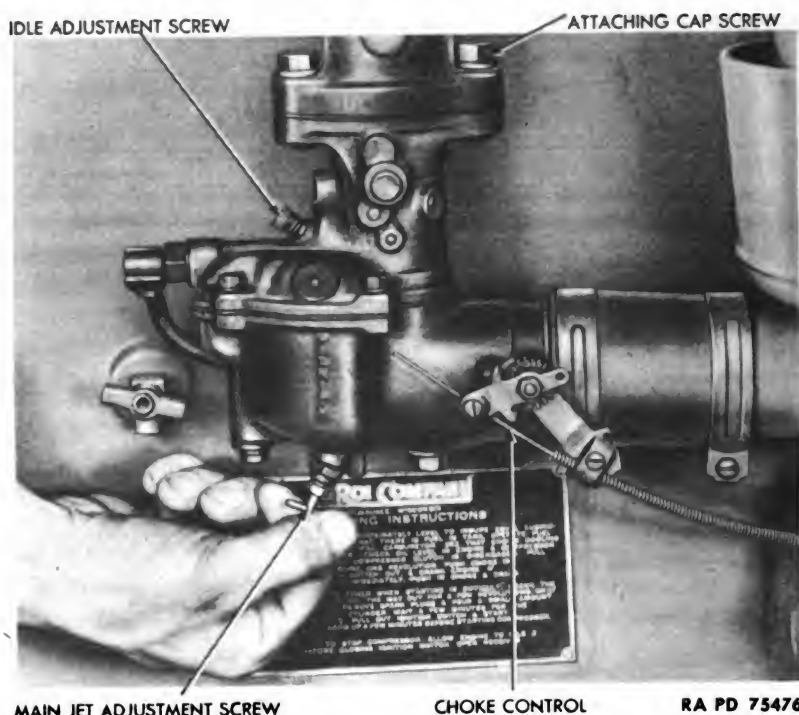

Figure 17 — Adjusting Compressor Unit Engine Carburetor
1. *Main Jet Adjustment* (fig. 17). With engine running, open throttle to about one-fourth open. Turn main jet adjustment (thumb-screw on bottom of carburetor) clockwise until engine speed decreases due to too lean a mixture. Open adjustment until engine speed decreases due to too much fuel. Set the adjustment halfway between these two extremes.
2. *Idle Adjustment* (fig. 17). With engine idling, turn idle adjustment screw (knurled head screw set an angle near top of carburetor). Clockwise motion enriches mixture; counterclockwise leans mixture. Adjust to position at which engine runs fastest for given throttle adjustment.